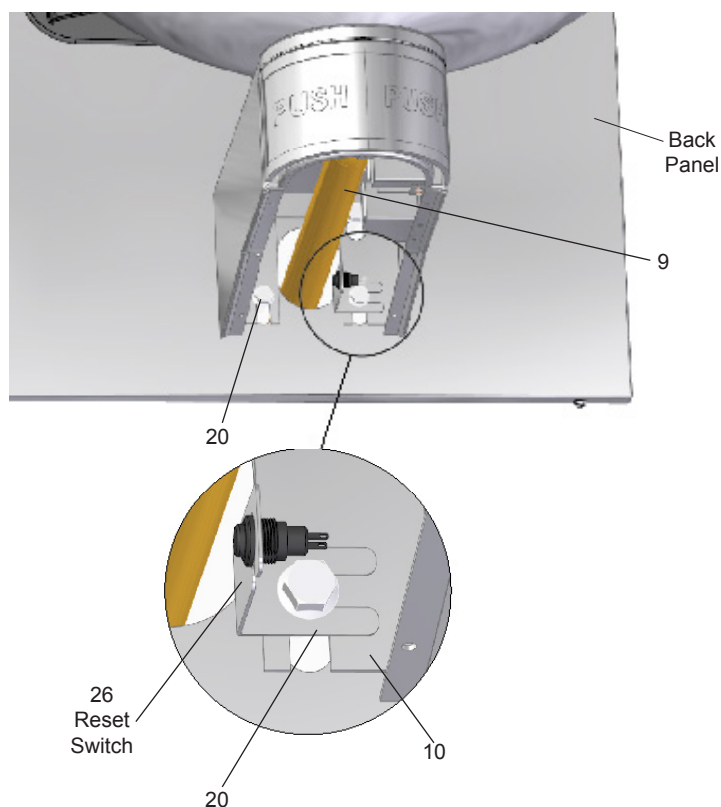

Figure 5 - Fountain Installation
7. **Install** reset switch for bottle filler (Fig 5). Snap the switch into position after locating wires through slot. Wrap up the excess cord.
8. **Install fountain** with (4) 5/16-18 HHMS (provided) (Fig 5). Connect the 1/4" water line from the fountain to the remaining opening on the tee (cut line to fit as needed).
- 1) To access the program button, remove the bottom cover on fountain arm (Fig 5) by removing the bottom cover screws. Reset button is located on mounting bracket.